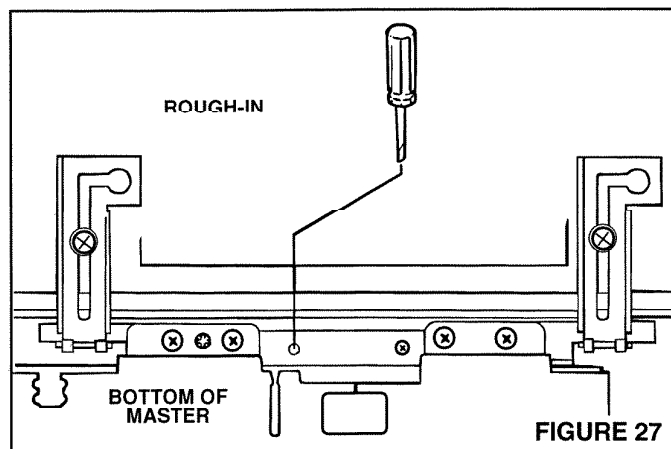

FIGURE 27
1. Refer to **Figure 27**. Using a thin-blade screwdriver, adjust the internal control counter-clockwise as viewed from the rear of the master station panel. This adjustment will reduce the intercom gain.